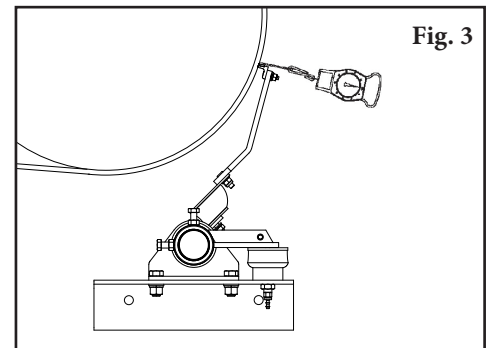

Fig. 3
4. **Check for correct tip tension.** Place a Tip Tension Gauge between the tip and the belt on the centre tip (or tips) (Fig. 3). While pulling in a straight motion, read the tension required to break contact between the tip and belt. 8kg is recommended. Also check tension on both outer tips. Make tension adjustments if needed.
- 4. Ready the Control Box.** First, if not already complete, use the hose provided with the cleaner or air tensioner system to connect the line from the cleaner air bag(s) to the Control Box. A t-fitting may be used to split the lines for dual air bags. Next, turn on the valve by rotating it until the handle is in line with the valve. Lastly, pull up on the regulator knob and turn counterclockwise until it stops, push the knob in to lock it (Fig. 3).